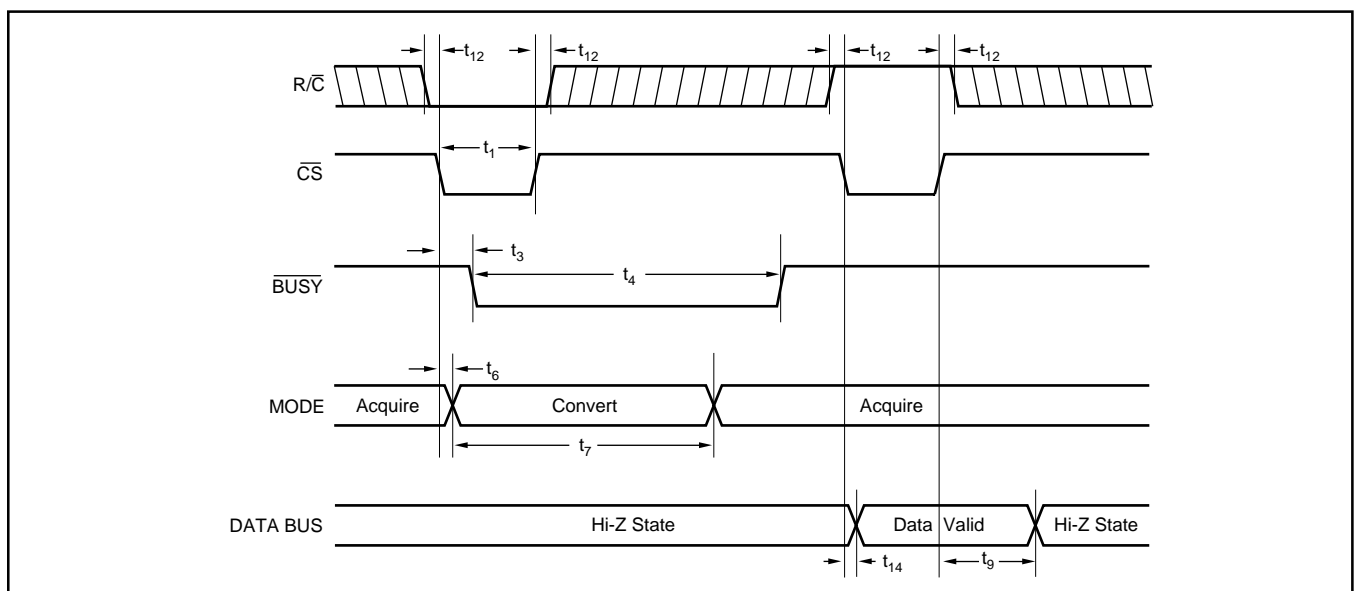

FIGURE 4. Using  $\overline{CS}$  to Control Conversion and Read Timing.
NOTES: (1) LSB means Least Significant Bit. For the 12-bit,  $\pm 10\text{V}$  input ADS7804, one LSB is 4.88mV. (2) Typical rms noise at worst case transitions and temperatures. (3) As measured with fixed resistors shown in Figure 4. Adjustable to zero with external potentiometer. (4) Full scale error is the worst case of -Full Scale or +Full Scale untrimmed deviation from ideal first and last code transitions, divided by the transition voltage (not divided by the full-scale range) and includes the effect of offset error. (5) All specifications in dB are referred to a full-scale  $\pm 10\text{V}$  input. (6) Full-Power Bandwidth defined as Full-Scale input frequency at which Signal-to-(Noise + Distortion) degrades to 60dB, or 10 bits of accuracy. (7) Recovers to specified performance after 2 x FS input overvoltage.